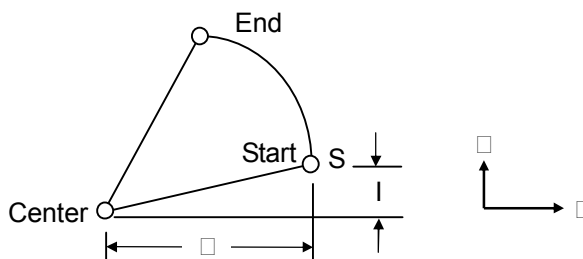

Fig. 3-8 Arc cutting
3. An arc comprises three elements, a start point, and end point and a center (See Fig. 3-8).
- a. The start point (S) is the tool coordinates when the G02 and G03 execute.
- b. The end point (E) is the coordinates of U and W in the program format.
- c. The center (C) is defined by I and K values. They are the coordinate difference between the arc start point and center. This value can be either positive or negative. Definition of the I and K values are same as the increments (U, W). The arc feed-rate is defined by F -value.